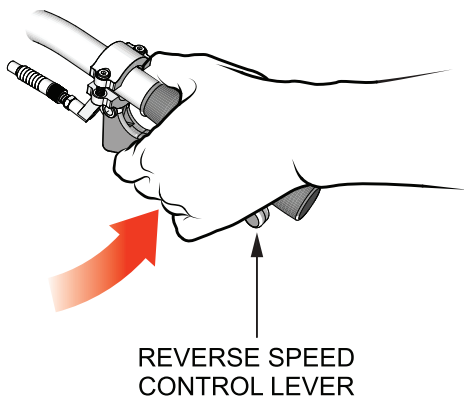

Figure 19. Reverse Speed Control Lever (Petrol)
7. On the opposite side of the handle bar is the **reverse** speed control lever (Figure 19). Repeat the above steps for traveling in the reverse direction.